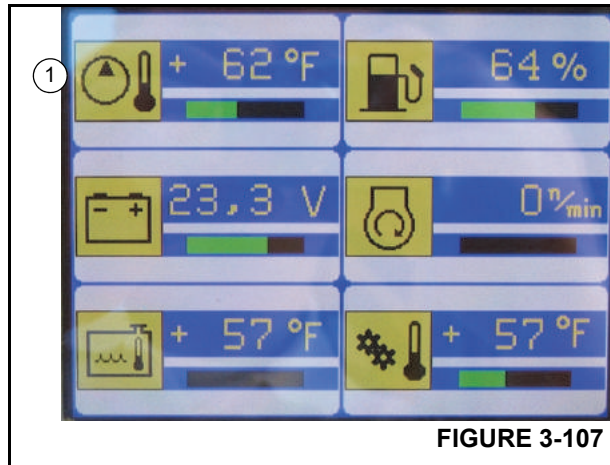

FIGURE 3-107
The current hydraulic oil temperature (1) is displayed in the Monitoring submenu (Figure 3-107).
5. Observe the hydraulic oil temperature; the hydraulic oil is preheated when the display (1) (Figure 3-107) shows a temperature of at least 50°F (10°C).